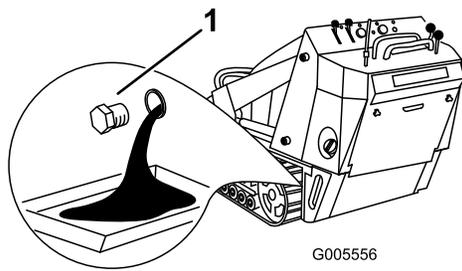

Figure 36
4. Remove the drain plug (Figure 36).